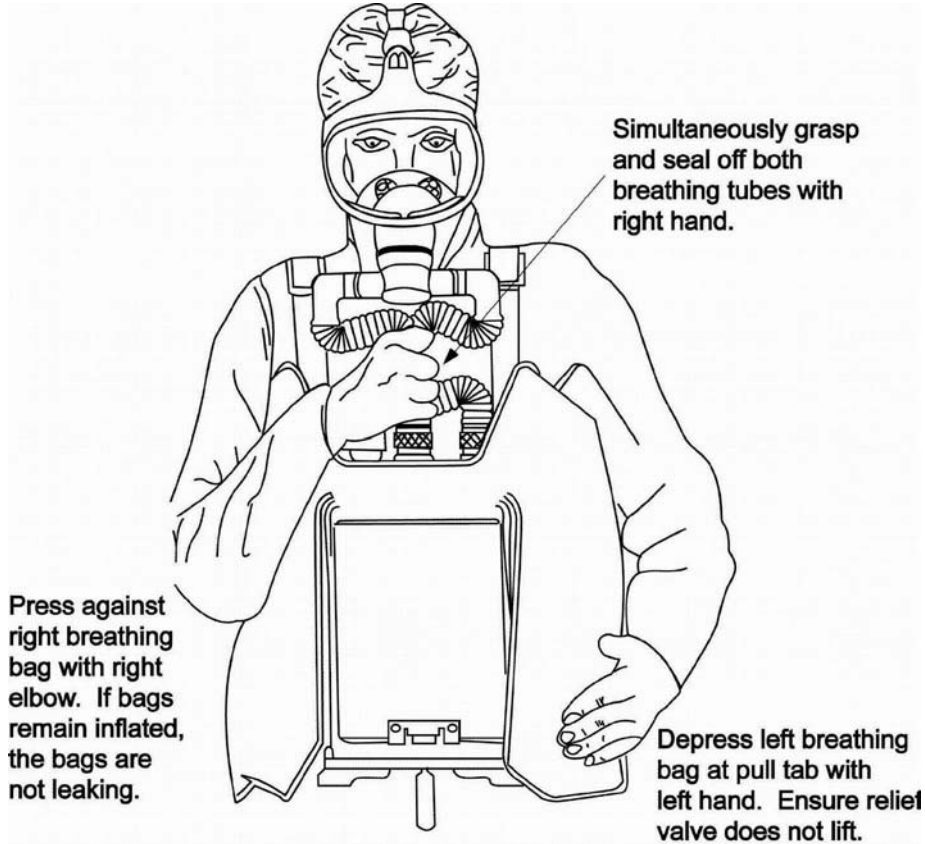

Figure 077-3-43. Testing Oxygen Breathing Apparatus for Leaks
- d. Test breathing bag tightness. Depress the left breathing bag at the pull tab with the left hand (Figure 077-3-43). Simultaneously grasp and seal off both breathing tubes with the right hand while pressing against the right breathing bag with the right elbow (Figure 077-3-43). Compress the left bag at the pull tab so the relief valve does not lift during this test. This procedure tests the canister, tube connectors, and breathing bags for tightness. If the bags do not remain inflated during the test, determine the cause of the leak and correct prior to use.